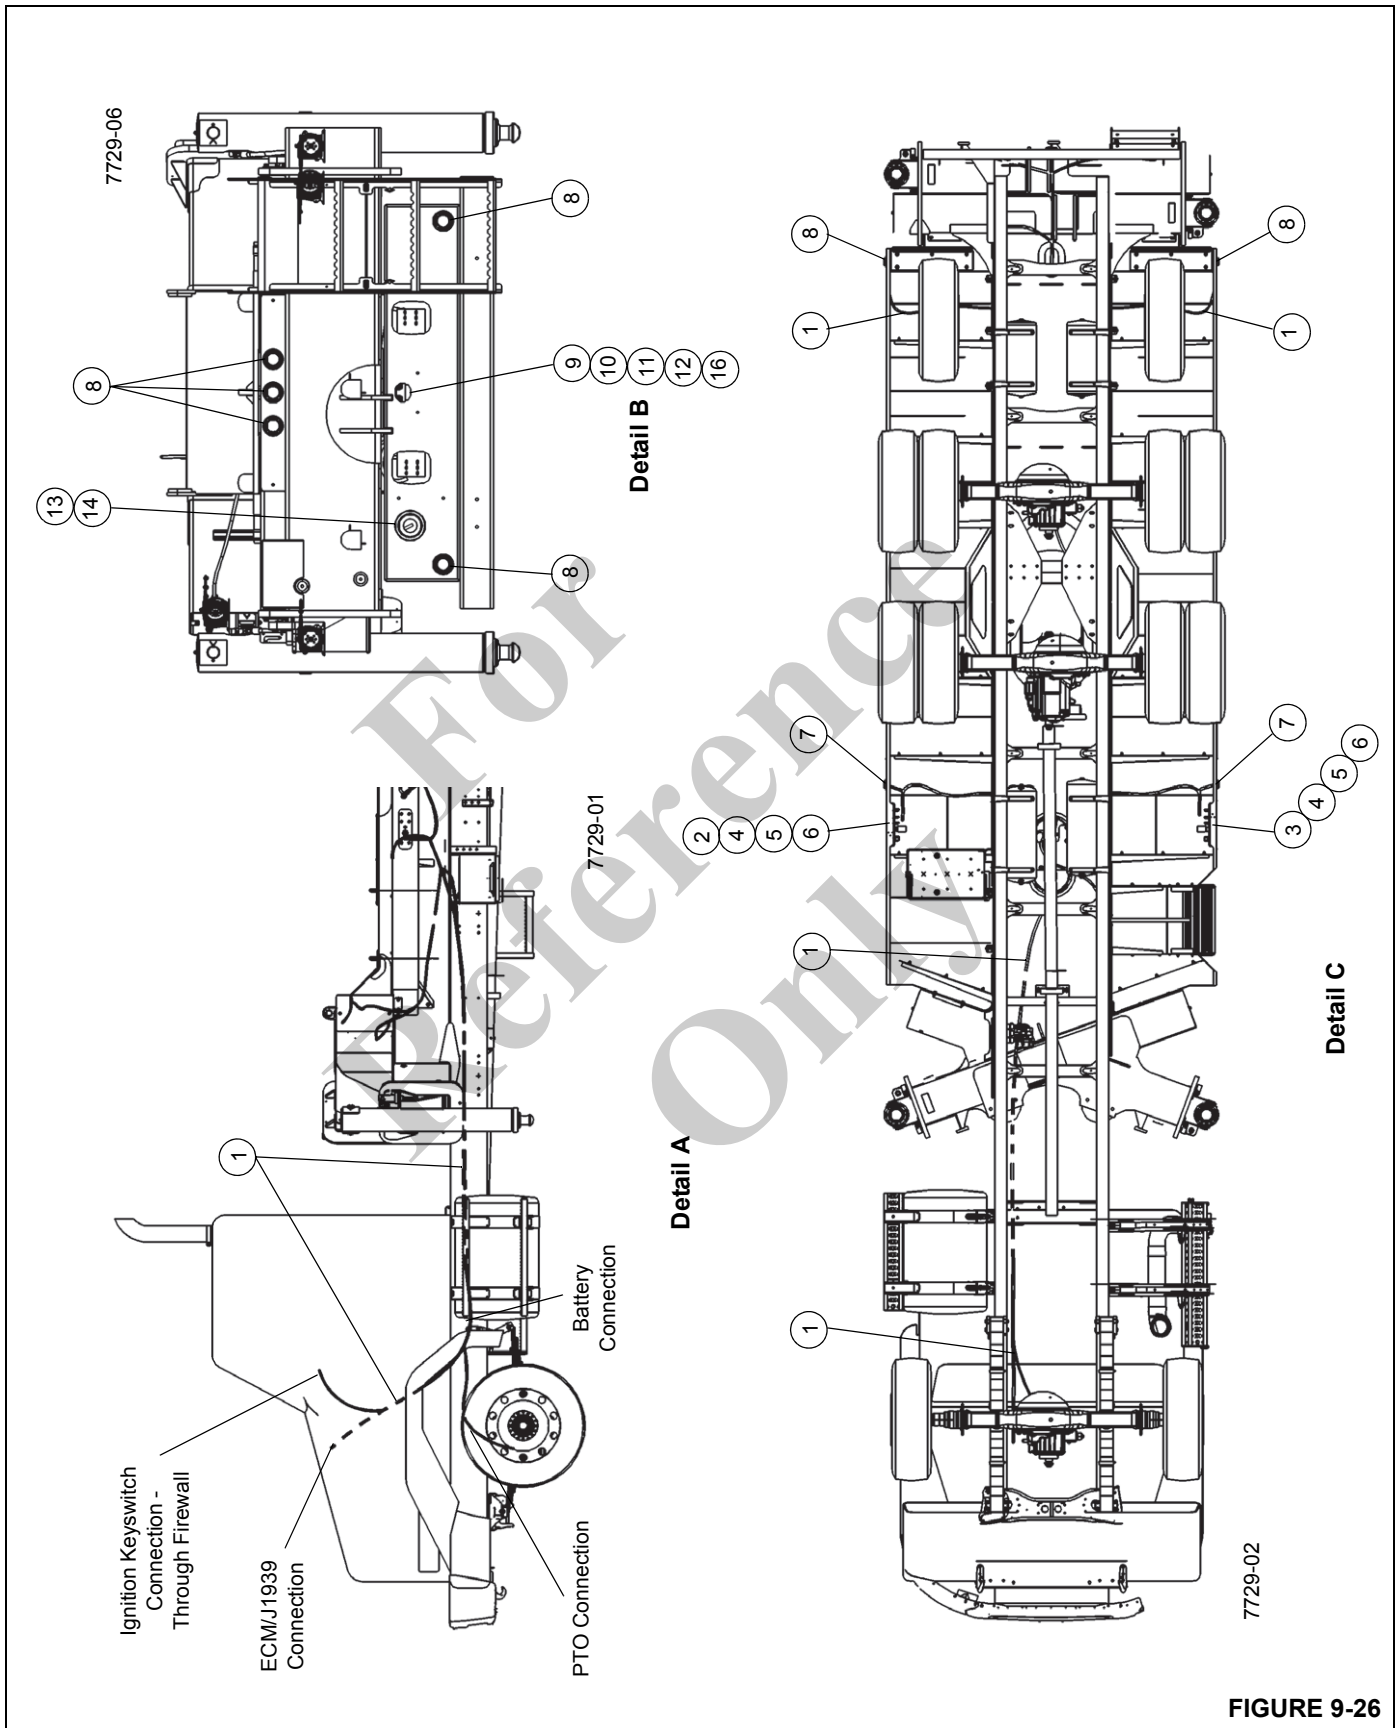

FIGURE 9-26
Make the electrical connection between the crane and truck using the following procedures and information in Figure 9-26.
1. Working at the rear of the truck, install the five red marker lights (8) in the light cover plate and light plate (Detail B), then connect the marker lights to the main wire harness (1).
3. Install the license plate light assembly (9) in the light plate using the supplied hardware (10, 11, 12, 16) (Detail B), then connect the light assembly to the main wire harness (1).
4. If equipped, install the backup/motion alarm (13) and grommet (14) in the light plate (Detail B), then connect the alarm to the main wire harness (1).
5. Install the red marker lights (8) in the driver and passenger side rear fender (Detail C), then connect the marker lights to the main wire harness (1).
6. Install the yellow marker lights (7) in the driver and passenger side front fender (Detail C), then connect the marker lights to the main wire harness (1).
7. Install the left and right remote outrigger control panels (left -2, right - 3) in their respective front fender using the supplied hardware (4, 5, 6) (Detail C), then connect the control panels to the main wire harness (1).
8. Using the two butt connectors (15), splice the #396 wire of the main wire harness (1) into the truck’s PTO indicator wire (Detail A and E).
9. Route the breakout wires #52 (crane start signal), #112 (truck acc signal), and #901 (crane ign signal) of the main wire harness (1) through the truck’s firewall and into the dashboard (Detail A). Connect the wires to the keyswitch.
10. Make the wire connections to the truck ECM and set the truck ECM and crane EEPROM settings using the information in the applicable engine chart in Figure 9-26.
11. Connect the #7 wire and three fuse holders (one 60 amp and two 40 amp) of the main wire harness (1) to the positive terminal of the battery. Connect the two #51 wires of the main wire harness (1) to the negative terminal of the battery (Detail D).
FIGURE 9-26 continued